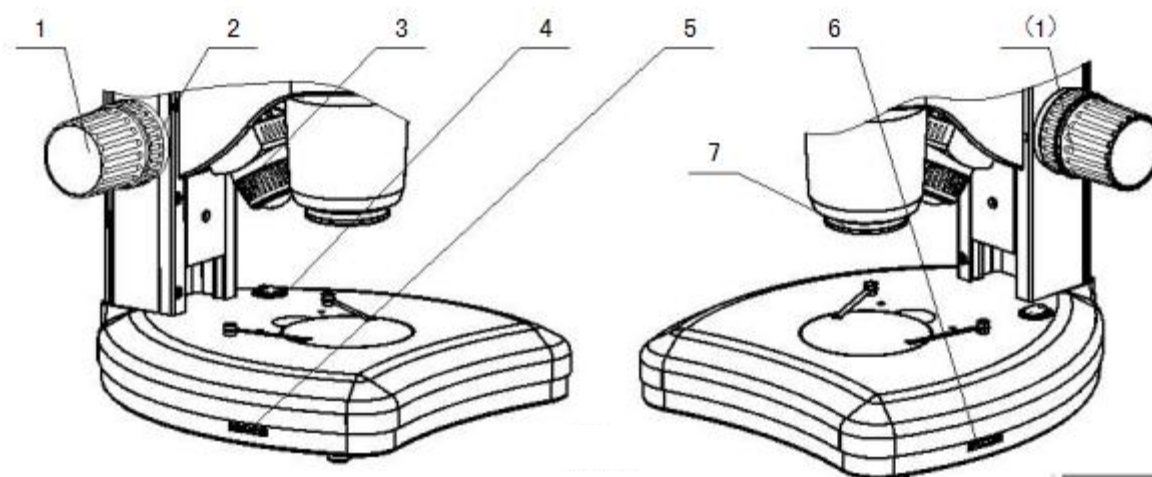

Figure 2
Turn on the main power switch 4 of the microscope (turn the switch to "-"), indicating the lighting system starts to work. Rotate the lighting knob 5 / 6 to adjust the brightness of reflected / transmitted light, so that the field brightness is suitable for visual observation, and the angle of reflected lighting 3 can be adjusted. If additional lighting devices (round lamp, LED round lamp, etc) are used, the device can be fixed on the lens tube 7. See Figure 2.
(1) Focusing is realized by the focusing hand wheel 1 on both sides of the frame body, and the mirror body can be lowered and raised by rotating the hand wheel.
(2) Adjustment of the tightness of the focusing hand wheel: before the instrument leaves the factory, the focusing hand wheel has been preset to a position with moderate tightness. If you want to adjust its tightness, you can adjust the tightness adjusting hand wheel 2. Clockwise rotation can make the focusing hand wheel turn lighter, otherwise it will make the focusing hand wheel turn heavier. See Figure 2.